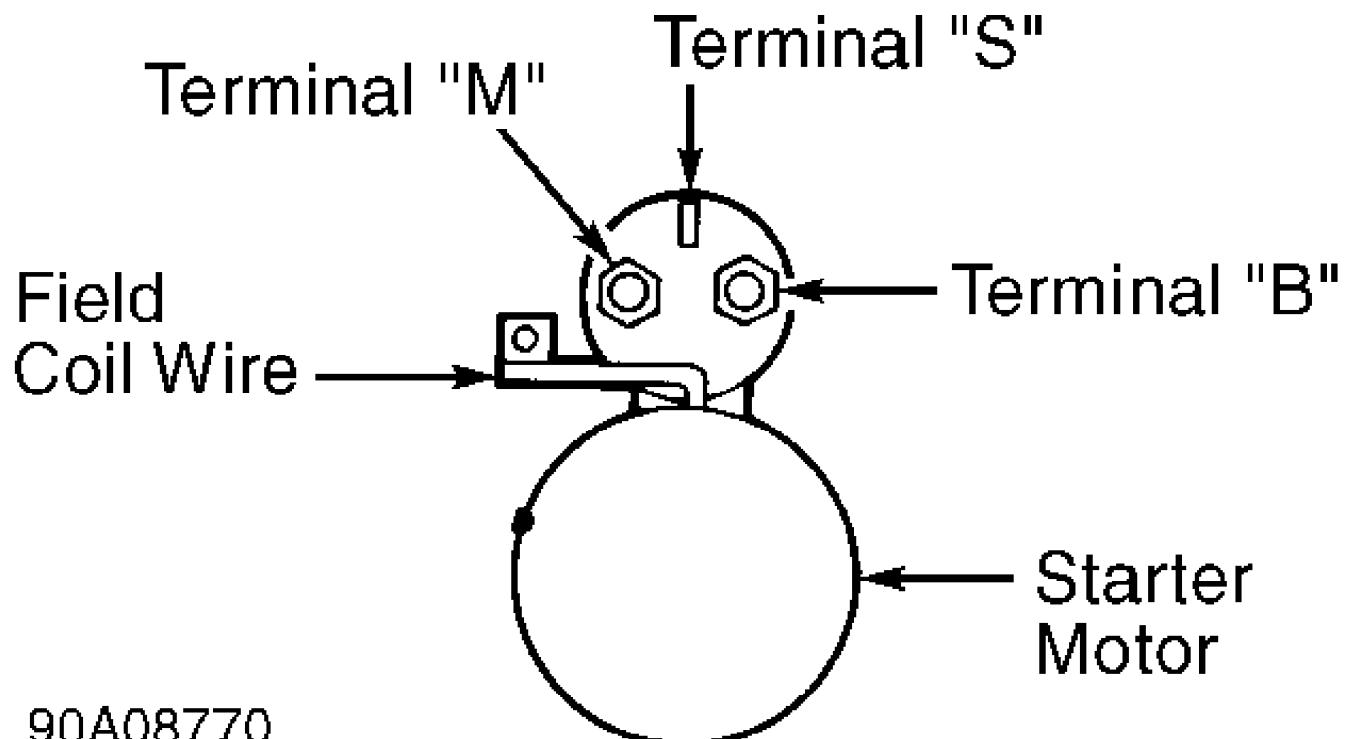

Fig. 3: Identifying Starter Solenoid Terminals
1) Disconnect field coil wire from terminal "M" at starter solenoid. See Fig. 3. Connect jumper wire between positive battery terminal of 12-volt battery and terminal "S" of solenoid.
- 1) Disconnect field coil wire from terminal "M" at starter solenoid. See Fig. 3. Connect jumper wire between positive battery terminal of 12-volt battery and terminal "S" of starter solenoid.
- 1) Disconnect field coil wire from terminal "M" at starter solenoid. See Fig. 3. Connect jumper wire between positive battery terminal of 12-volt battery and terminal "M" of starter solenoid.